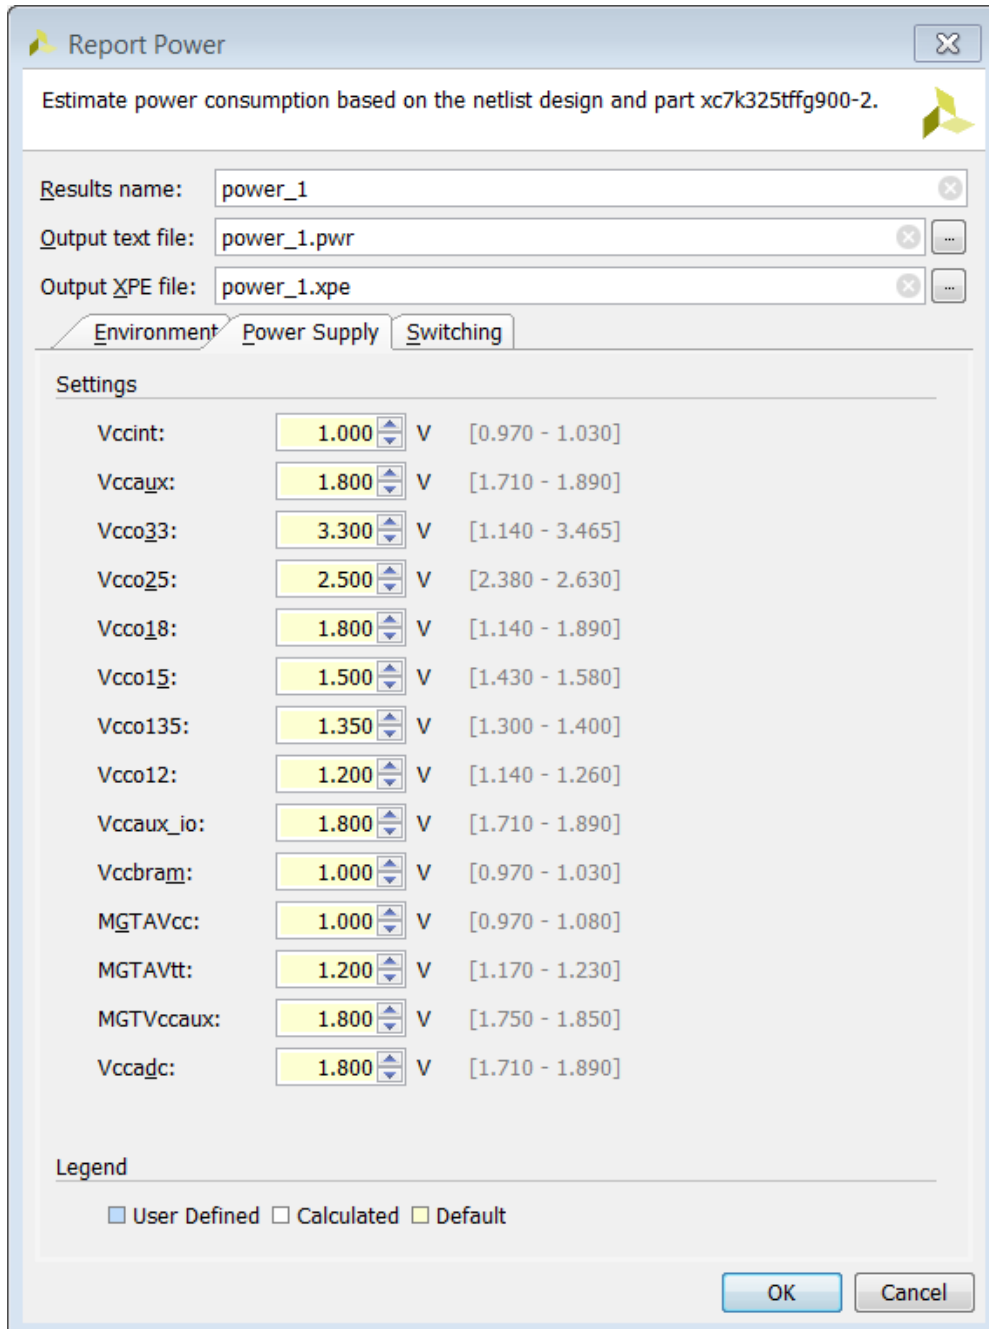

Figure 8: Report Power Dialog Box – Power Supply Tab
- In the **Environment** tab, set **Process** to **maximum** for a worst case power analysis. Examine the **Power Supply** tab (Figure 8).